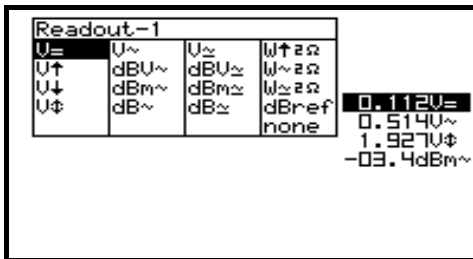

Fig 17
2. Press the cursorkeys to highlight the desired readout function for meter1 readout. (Fig. 17)